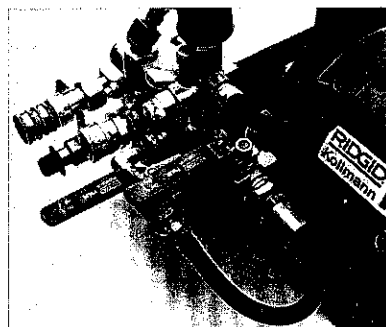

Figure 6. For normal jetting, the green valve is "OFF" and the blue valve is "ON".
**For Normal Jetting Operation**, close the blue pulse valve to the "ON" position—leave the green pulse valve "OFF". (See Figure 6) There will be a slight drop in jetting pressure—that is normal.